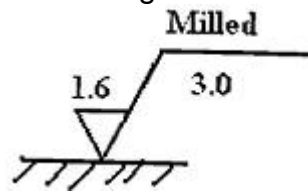

Fig. 1
- 3 Explain the following symbol shown in Fig. 1.